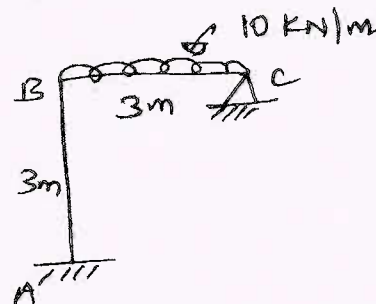

Fig.Q10
- 10 Analyze the frame shown in Fig.Q10 by stiffness method.